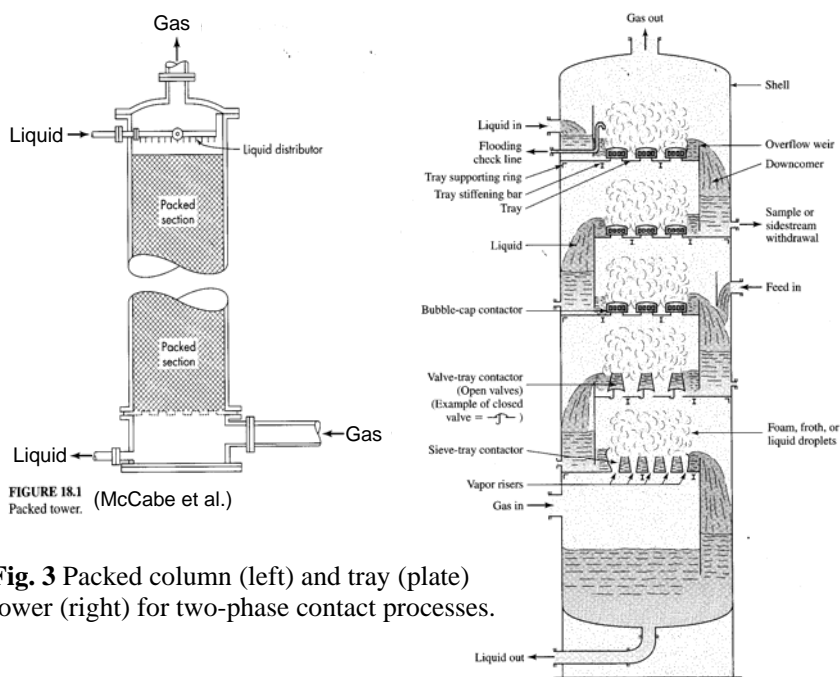

Fig. 3 Packed column (left) and tray (plate) tower (right) for two-phase contact processes.
Therefore, most of the separation processes based on mass transfer are carried out in two-phase contact processes. Two-phase contact processes can be accomplished in single-stage or multiple-stage systems, and operated in batch or continuous mode. **Packed tower** (column) is commonly used for continuous-contact processes (single-stage) and **plate or tray tower** for multi-stage processes (**Fig. 3**). A packed tower is a cylindrical column filled with **packings** which provide the gas-liquid contact area. The two phases always *flow in countercurrent direction* thru these towers (to maximize the mass transfer driving force), with the gas or light phase entering at the bottom and exiting at the top, and the liquid or heavy phase entering at the top and exiting at the bottom.
3.5.3. Distillation (fractional distillation) is the separation of components in a liquid mixture by a process involving **partial vaporization**. Separation of the constituents is based on differences in volatility (or vapor pressure, boiling point). Distillation is mostly carried out in **tray or plate towers** (**Fig. 3**). In the tower, the rising vapour contacts with the falling liquid on trays, achieving mass transfer between the two phases. The more volatile (lighter) component increases its conc. from bottom to top, while the less volatile (heavier) increases conc. from top to bottom.